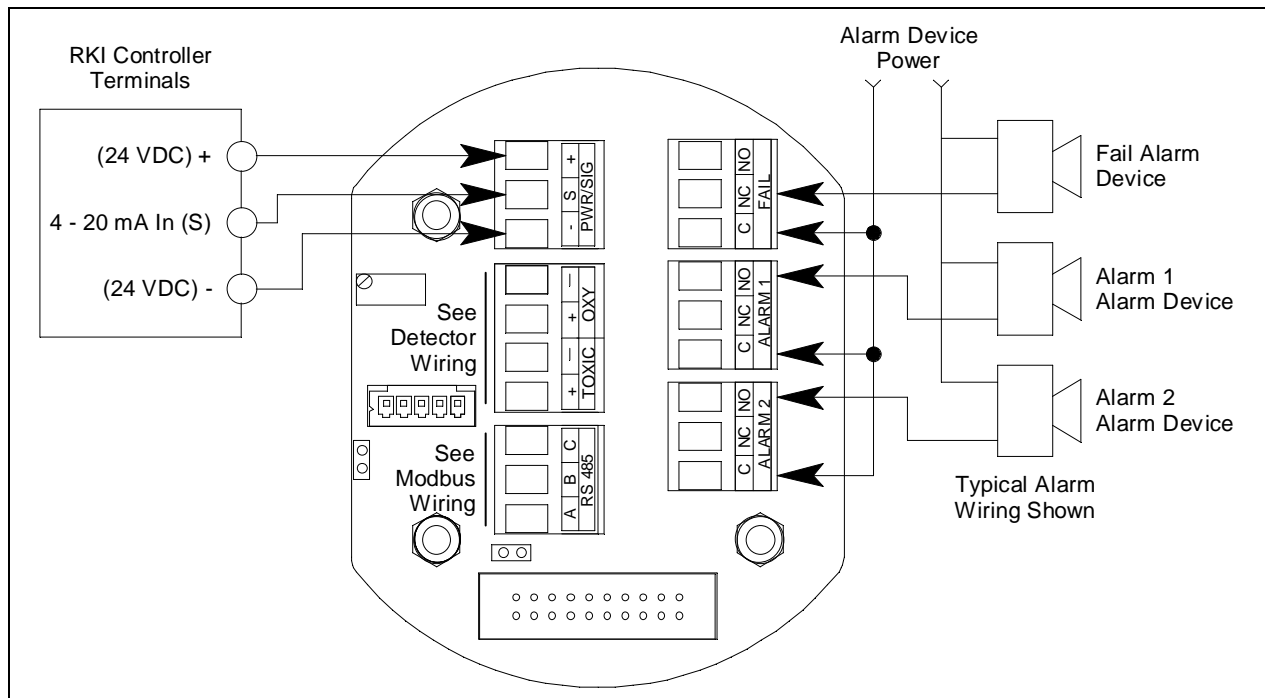

Figure 9: Wiring the M2A Junction Box to a Controller and Alarm Devices
- If the M2A will be wired into a Modbus network, see “Chapter 8: RS-485 Modbus Output” on page 40. See Figure 9 below for field wiring connections to the M2A.